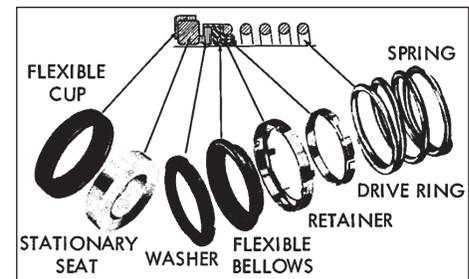

Fig. 1 Mechanical Seal.
The mechanical seal (see Figure 1) is a precision product and must be treated as such. During removal, great care must be taken to avoid dropping any part of the seal. Take particular care not to scratch the lapped faces on the washer or the sealing seat. Do not put a seal back into service until the sealing faces of the washer and seat have been lapped or replaced.
1. The mechanical seal (27) (see Figure 1) cannot be installed as an assembly. It is necessary to have the seal seat properly in place before the balance of parts can be added. Thoroughly inspect the seal cavity in the bracket for burrs or nicks which could damage the seat of the seal. Apply a film of soap paste or flax soap (do not use oil or grease) to the seal seat and install, taking care to seat it evenly and squarely.